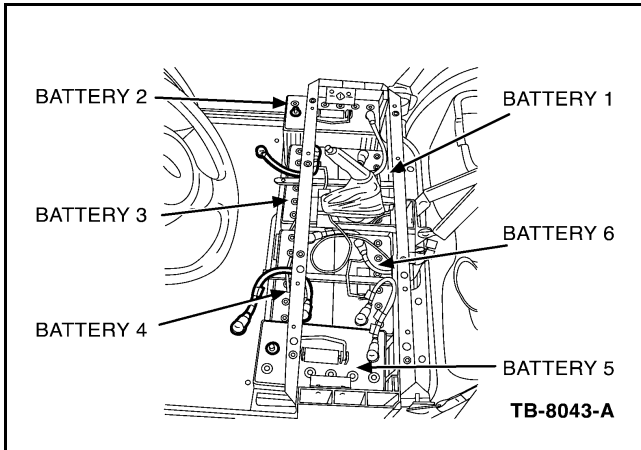

Figure 2 - Article 04-24-9
9. Split the battery pack by removing the negative battery terminals first between batteries 2 & 3, and then batteries 4 & 5, (Figure 2).